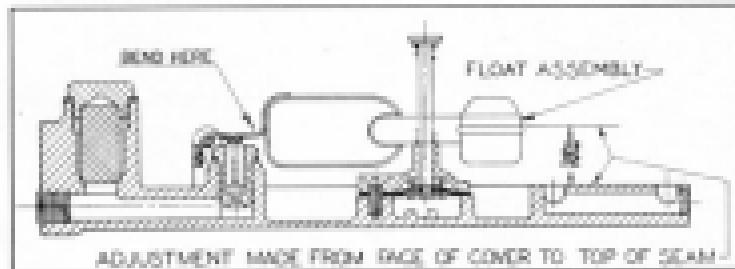

Fig. 301. Head of Float Adjustment.
Bend float arm against spring to decrease amount of drop; bend away from spring to increase drop. Tension is correct when float drop is such that outside edge of float (bottom) is level with lower diaphragm seat when suspended freely from cover. (See Fig. 301.)
- Start the pump rack assembly in contact with piston gear, so that in the "pump up" or "locked" position, the pump lever arm will be parallel with the pump housing face. (See Fig. 301.) This will require lifting of rack and rotating pump shaft, checking each time until proper position is accomplished.